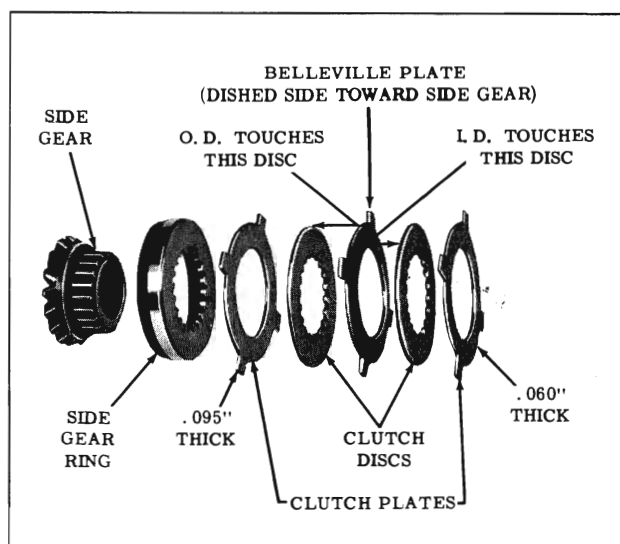

Fig. 6-117 Clutch Pack
3. The two clutch packs in the Anti-Spin differential each contain two plates of different thickness. The inboard clutch plate in each pack, which is adjacent to the side gear ring, is .095" thick. The outboard plate, which is adjacent to the differential case, is .060" thick. These plates must not be interchanged. The correct stack-up of parts in the clutch pack is shown in Fig. 6-117.
4. If inspection showed plates and discs to be in good condition, stack original clutch packs on each side gear as shown in Fig. 6-117. If any plates or discs were defective, install the necessary parts.